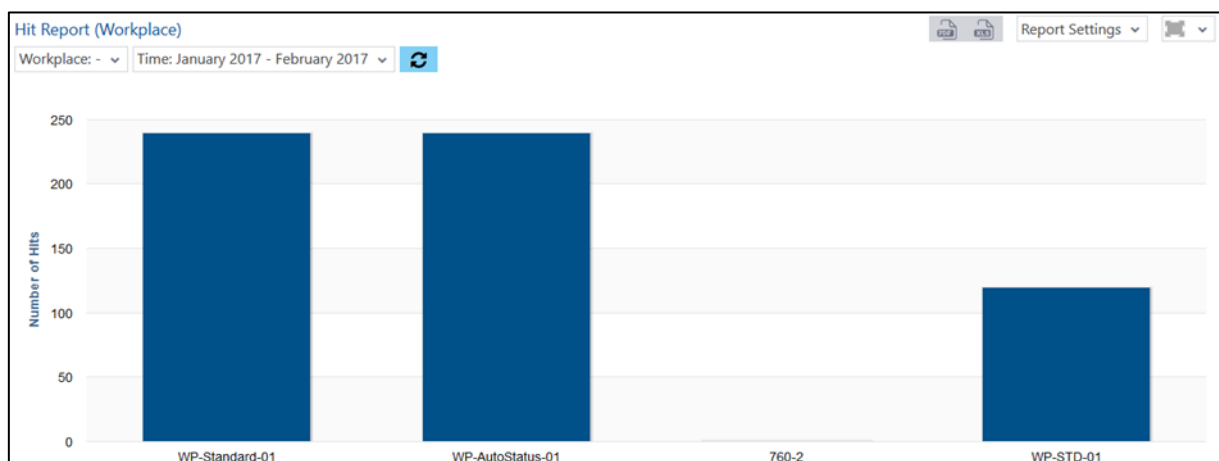

Fig. 94: Hit report (workplace) as bar chart
- Hit report (workplace) as bar chart (fig. 94):